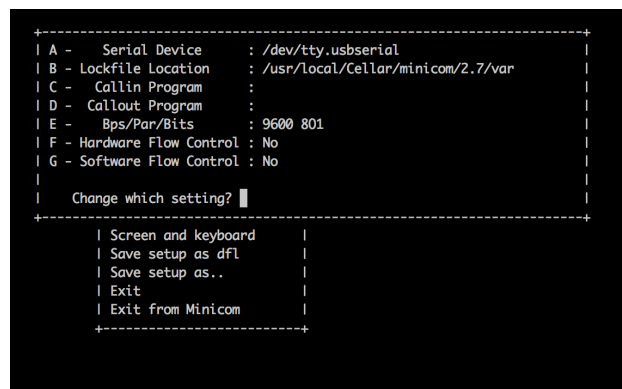

Figure 2: The correct settings to use with minicom
- **Linux and OS X users** — Start `minicom` from the terminal in config mode by using the `-s` flag, like so: `minicom -s`. Use your keyboard to navigate the configuration menu that pops up. Select the **Serial Port Setup** option. Make your `minicom` settings look like they do in Figure 2. Remember that your serial device and “Lockfile Location” may differ (you can ignore “Lockfile Location”, actually). After you have entered the correct settings hit escape until `minicom` dumps you out to the serial console window.